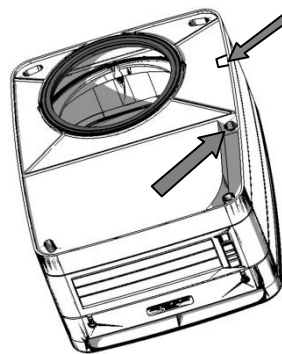
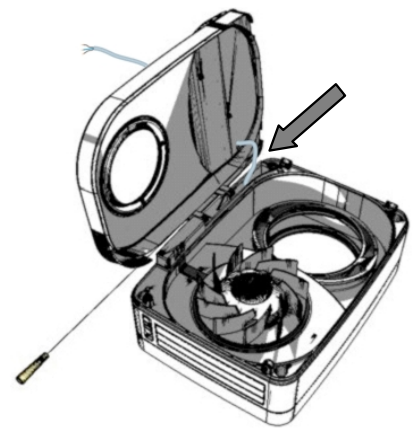

Figure 7.
Figure 8.
6. Feed flexible mains cable through one of the rear entry points or the side entry point as required. And then the door - Figure 7 & Figure 8.